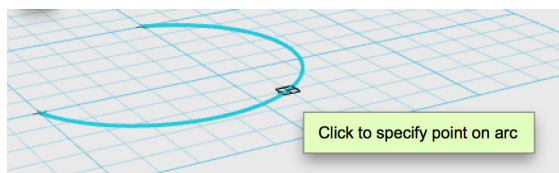

Figure 4-71 The third point of the arc of three points
5. Click to select the third point (Figure 4-71).